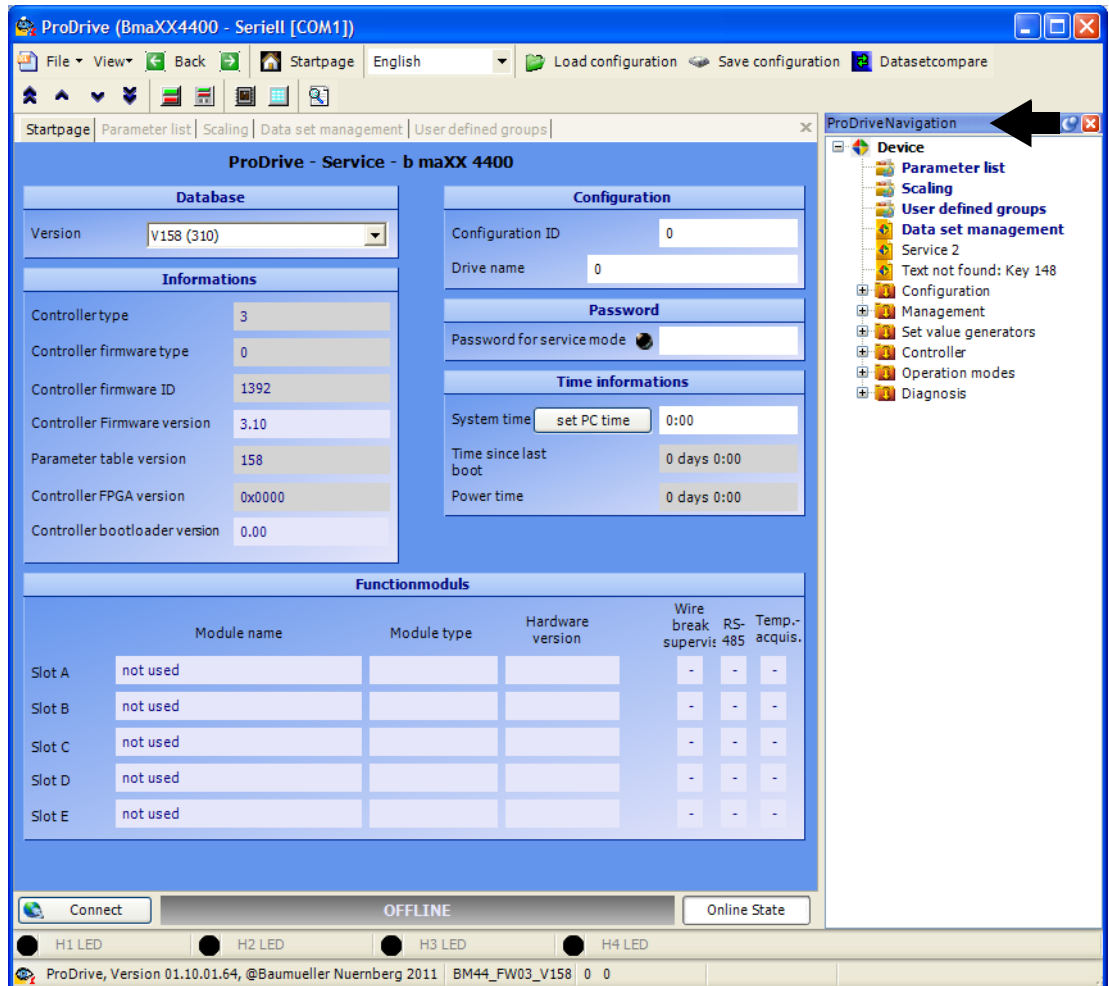
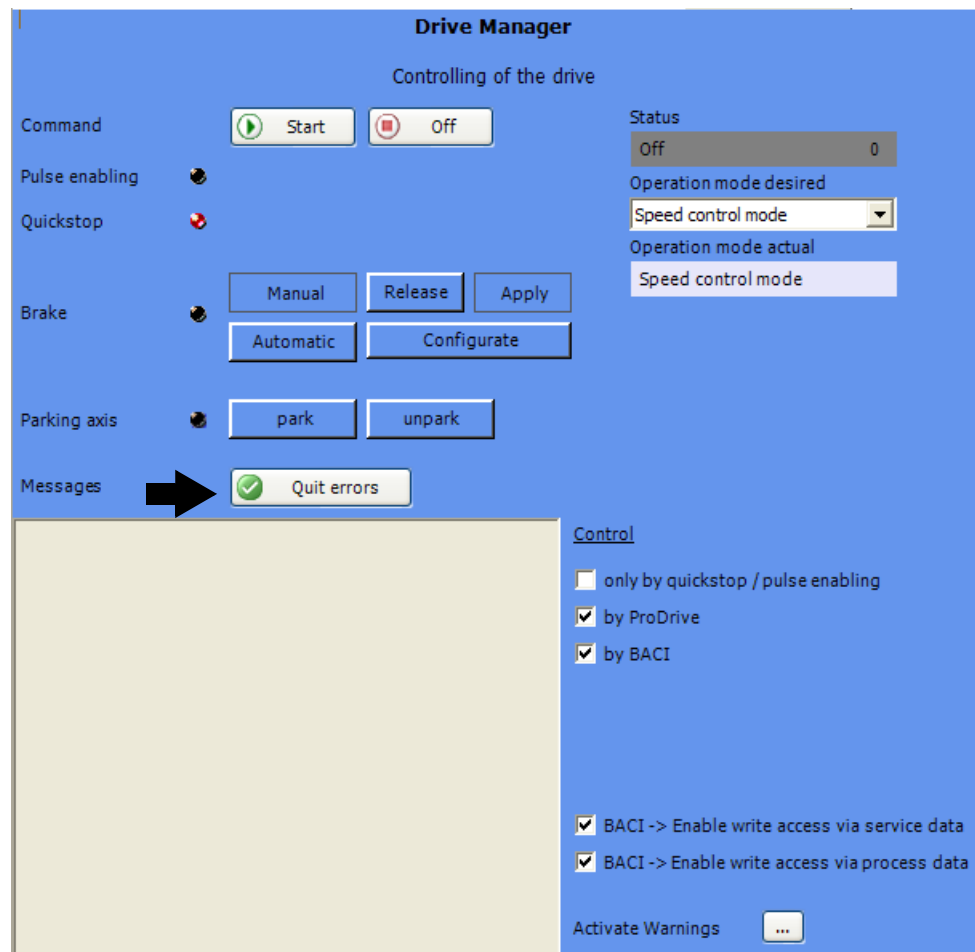

Figure 34: ProDrive: main page
Figure 38: ProDrive: Drive Manager
- 12 On the main page select 'Select device'. The window 'Select device' appears (see ▶Figure 38◀ on page 68)
- 13 Select the serial interface under (1), where the PC is connected with the b maXX device.
- 14 Then select the type of device, b maXX4400 drive under (2) and the firmware status under version.
- 15 Then press 'Test' (3). If an online connection with the b maXX device is established, then an according session (4) is shown. The shown version and the version of the device have to match. If you press 'Connect' (see ▶Figure 34◀ on page 64) and the versions don't match the error message 'Conflict version' will appear. The XML data update, which is provided, can solve this conflict.